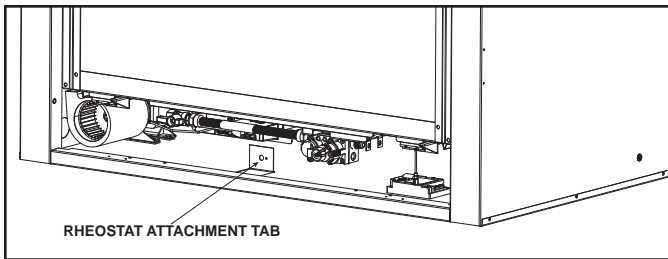

Figure 2.3 Rheostat Attachment Tab Location
3. If rheostat is required, bend rheostat attachment tab located in bottom of fireplace upward as shown in Figure 2.3.